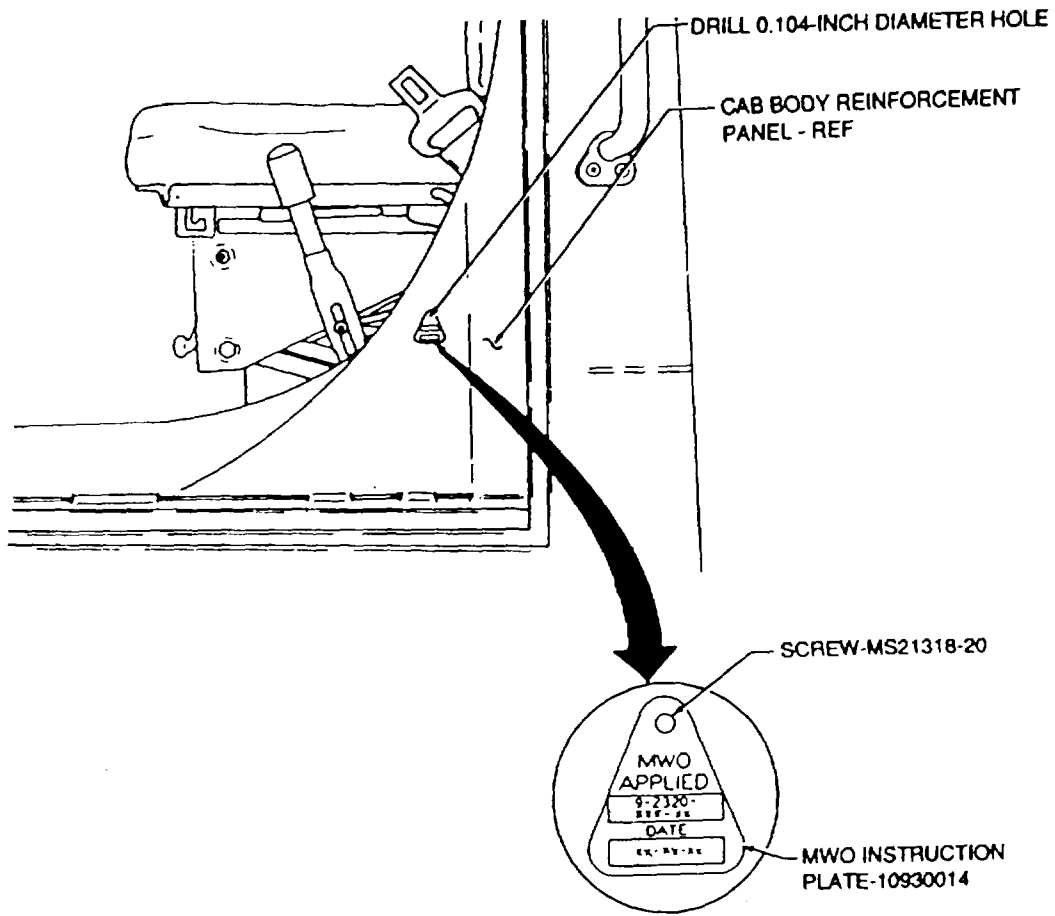

FIGURE 5
(1) After Brake Proportioning Valve Kit is installed, mark "MWO 9-2320-272-20-7" in the MWO applied block, and date in date block on 10930014 MWO instruction plate as shown in figure 5.
(2) Install MWO instruction plate by drilling a 0.104-inch diameter hole (#37 drill) in cab body reinforcement panel and secure with MS21318-20 screw as shown in figure 5.
(3) After screw is installed, flatten or remove protruding excess screw material from inside of cab body reinforcement panel.
15. MATERIAL CHANGE (MC) NUMBER.
a. When installed correctly, Brake Proportioning Valve Kit will appear on MWO label as shown in figure 5.